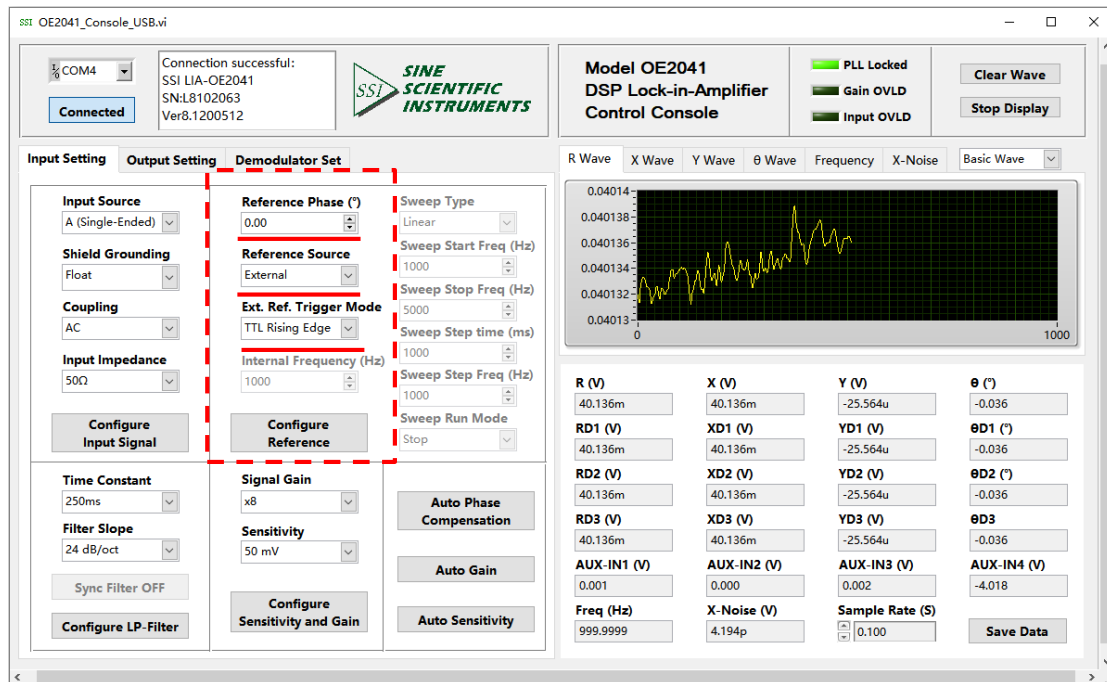

Fig.78 Reference Configuration
2. Choose the following options in “Reference Configuration”, including “Reference Phase”, “Reference Source”, “Ext. Ref. Trigger Mode” with other options in default, as is shown in Fig.78. At last, click the button “Configure Reference” to finish the configurations.